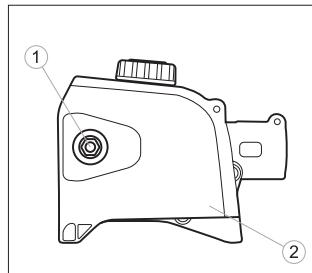

fig. 15
3. Install a chain loop over the drive links in the groove of the tire and then align the chain over the drive gear. Make sure the teeth are pointing correctly. (fig.15).